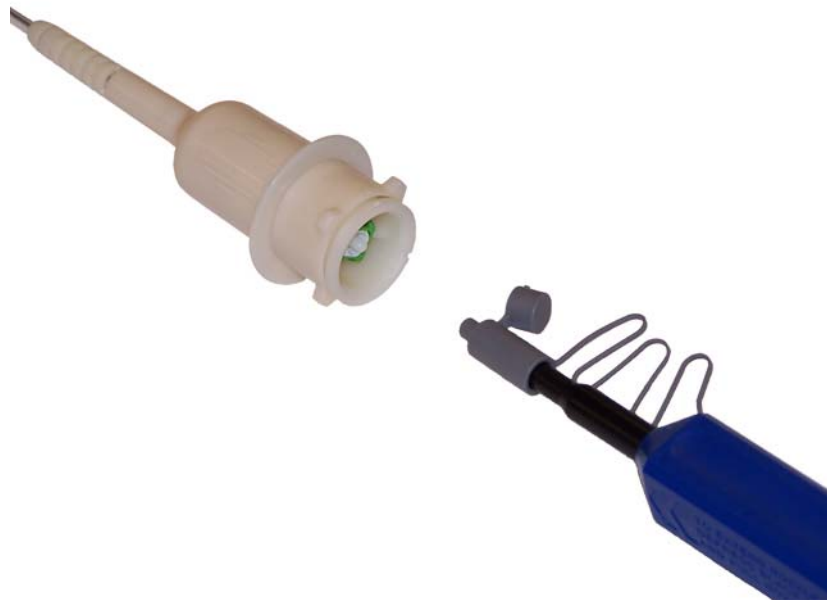

Figure 9-2: Inserting Cleaner Into Catheter
9. Open the sizing cap and place it on the end of the Optical Fiber Connector Cleaner (see Figure 9-2).